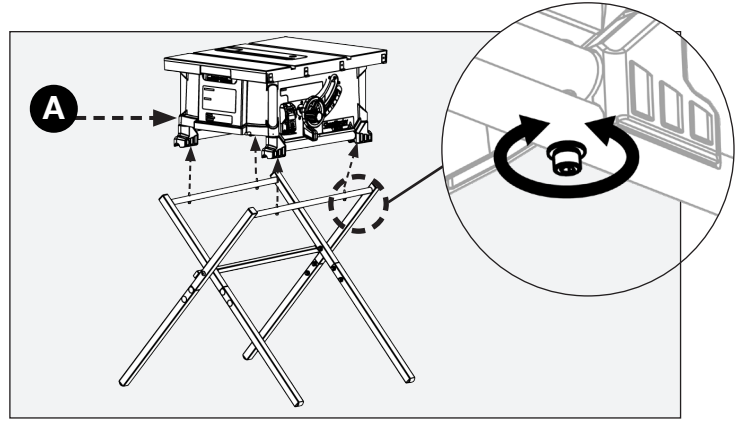

FIGURE 6
Place saw (A) on stand assembly, while aligning the screw holes in the saw stand with the threaded holes in the saw base (Fig. 6).